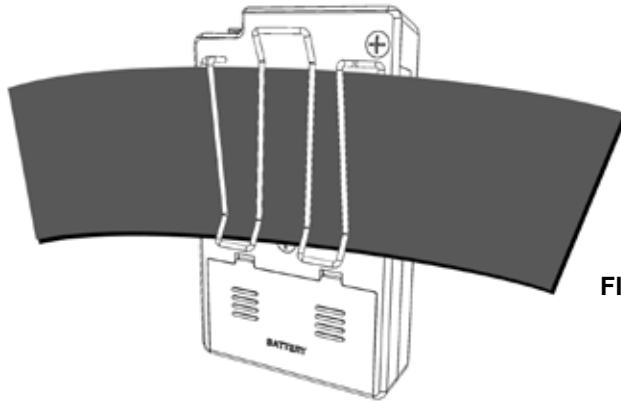

FIGURE 14
1. The bodypack transmitter is attached to clothing (e.g. guitar strap, belt, waistband) with the supplied belt clip as shown in figure 14.